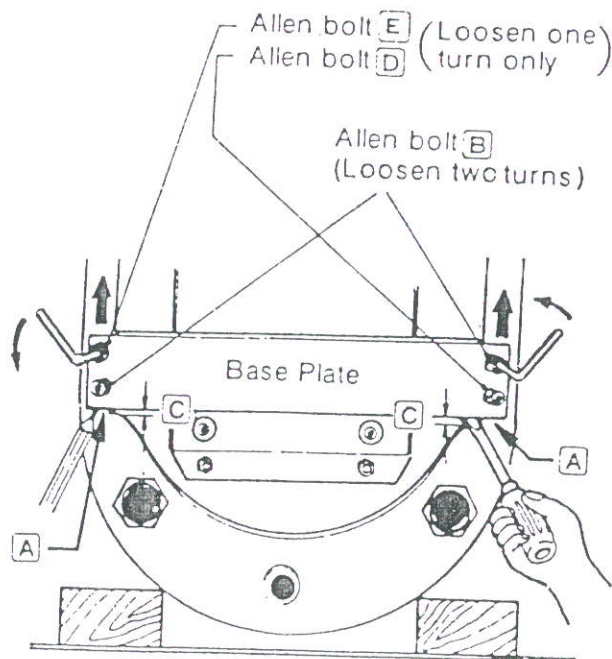

Fig. 13
1. Place the wheel as shown in Fig. 13.